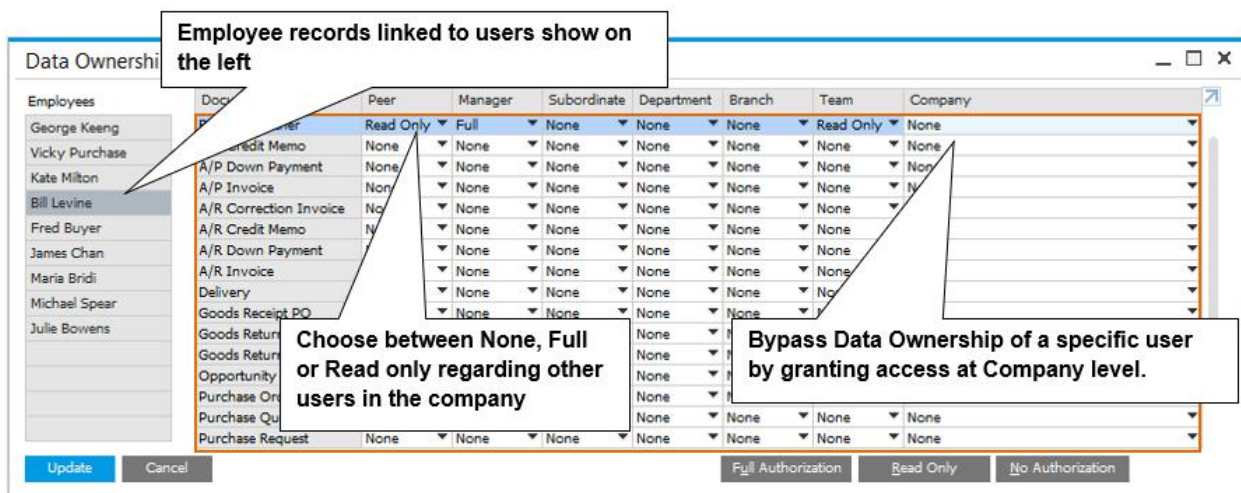

Figure 10-4: Define Data Ownership Authorizations
7. Finally, you need to define the relationship between employees, go to *Administration* → *System Initialization* → *Authorizations* → *Data Ownership Authorizations*. See Figure 10-4 for setting up data ownership authorizations.